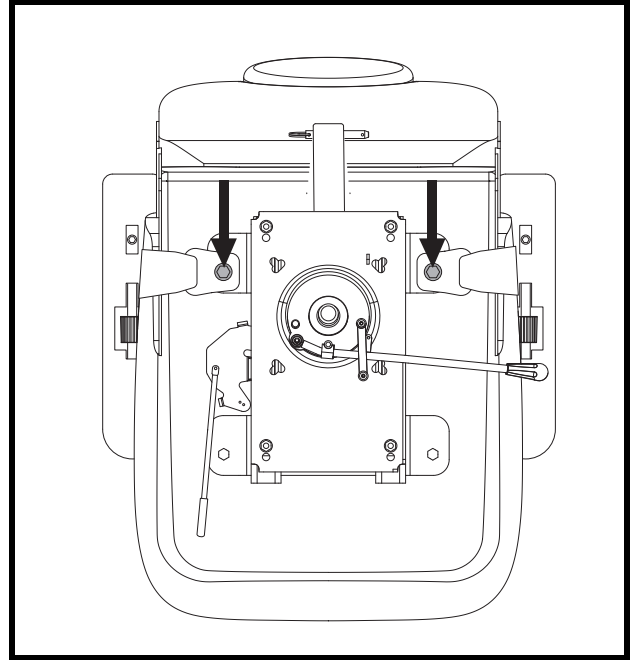

Figure 18. Positioning Bolt Bolts
2. Place the seat upside down so that you can see the bottom of the seat base. See figure 18.